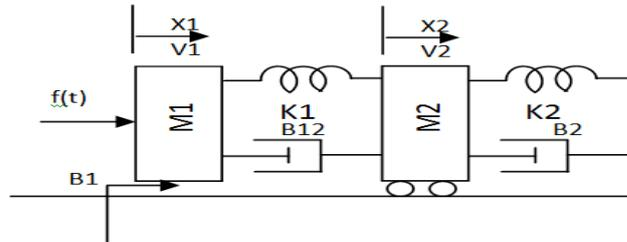

Fig.1
- (b) Write the differential equations governing the mechanical system shown in fig.1. draw the force –voltage analogous circuits. 8M